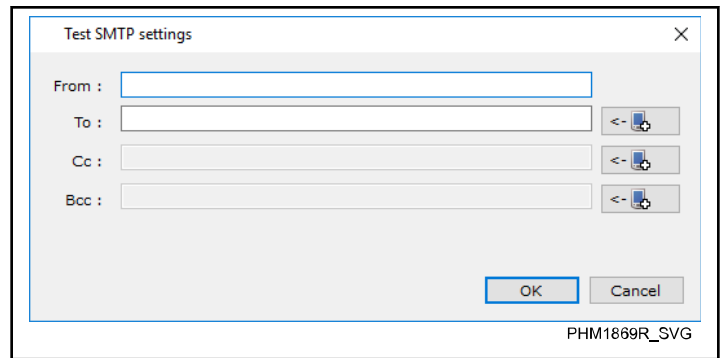

Figure 36
6. In the "Send test email" window, enter your email address into the "From" text box, enter the recipient's email address into the "To" text box, and click **OK**. Refer to *Figure 36* .